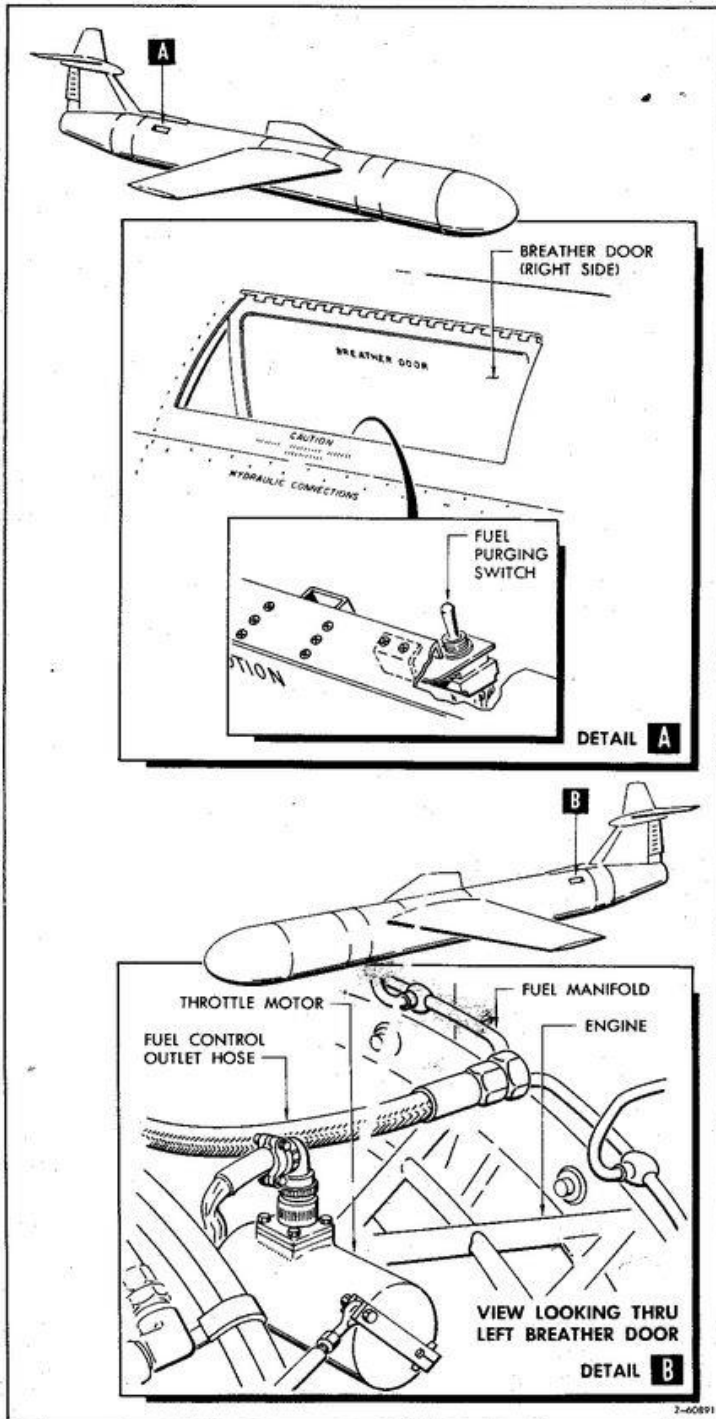

Figure 3-8. Missile Fuel Purging
- b. Disconnect fuel control outlet hose (figure 3-8) from engine fuel manifold.
h. While engine is motorizing, depress and hold **FUEL PURGING** switch (figure 3-8) located inside right **BREATHING DOOR** until approximately 1 gallon of fuel is purged; then release **FUEL PURGING** switch.